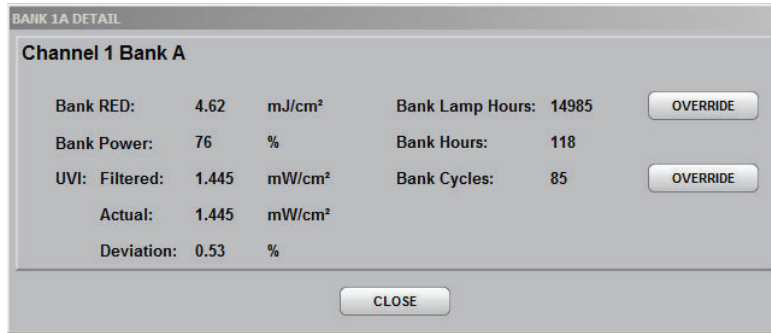

Figure 34 Bank Details
2. Bank Lamp Hours → OVERRIDE (Figure 34)
2. Bank Cycles → OVERRIDE (Figure 34)